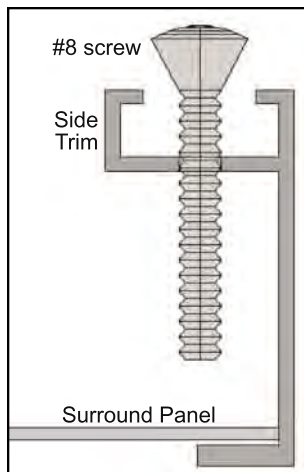

Figure 48: Screw to hold the trim against the surround.
6. On the side trims, there are holes 2" (50 mm) from either end. Use a Phillips screwdriver to place a #8 screw 1 1/4" long in each hole and tighten (refer to Figure 48). This will keep the trim tight against the surround.